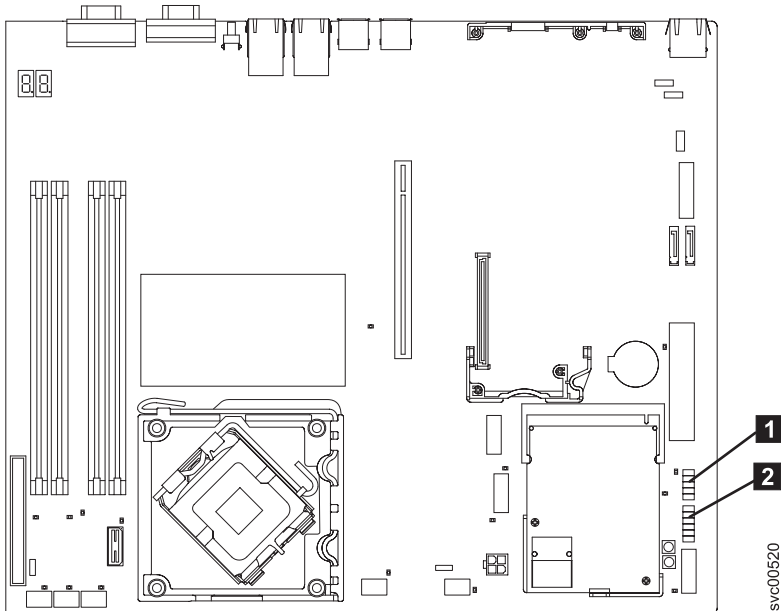

Figure 232. Connectors for the operator-information panel on the SAN Volume Controller 2145-8A4 system board
7. The operator-information panel cable consists of two thick cables and a number of thinner cables that are bundled together and routed through the chassis. It provides connectivity for the operator-information panel and the front USB ports. Trace this cable assembly through to the right side of the system board (next to the power supply) and disconnect the Front USB connector **1** and the operator-information panel connector **2** from the system board shown in Figure 232.